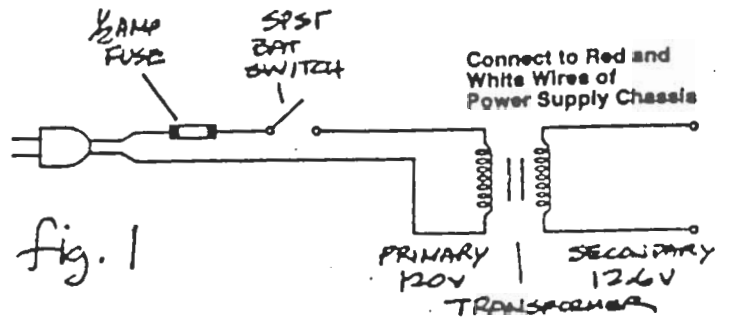

fig. 1
Step 1. - See fig. 1 for suggested hookup for the transformer and the power supply. You will note this is the same as shown in the Radio Shack diagram. I have included some notes for clarity.